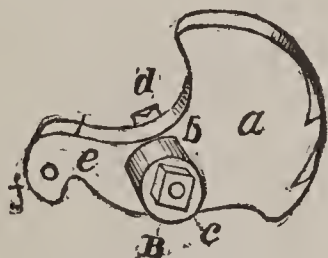

FIGURE 80.
*Nomenclature of the Tumbler.*—The names of the tumbler, Fig. 80, are: *a*, the body; *b*, arbor; *c*, squares; *d*, pivot; *e*, swivel-arm; *f*, pin-hole, and *g*, the tumbler-screw hole.